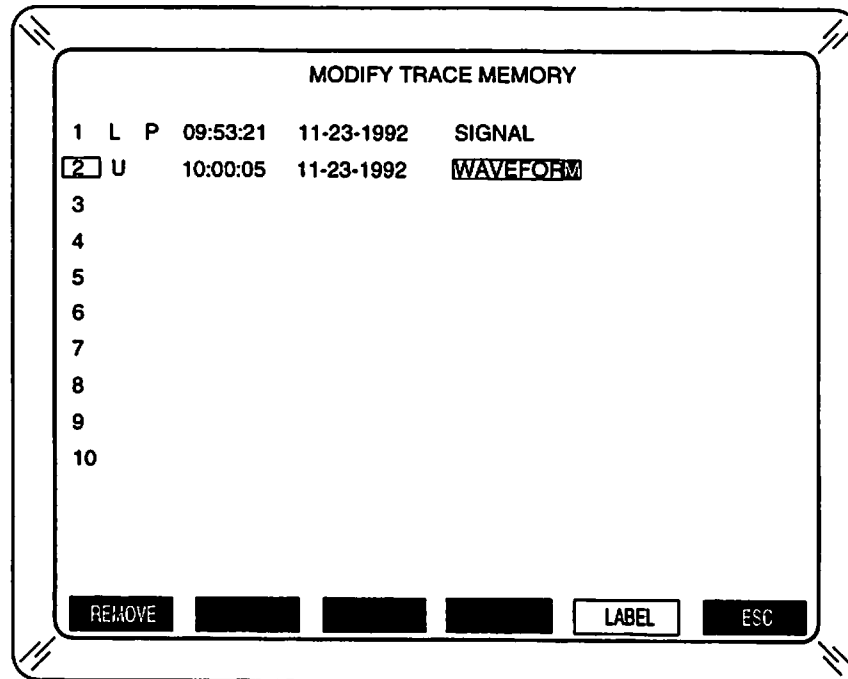

Figure 3-56 Modify Trace Memory LABEL Function
- **LABEL Soft Function Key F3** enters same secondary labels as in Modify Trace Memory Menu for Soft Function Keys to edit the Storage Label (see Figure 3-56):